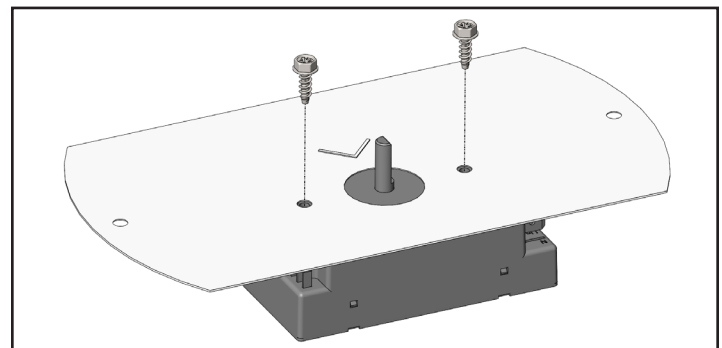

Fig. 4. DO NOT overtighten the screws when installing the control.
4. With the provided Phillips hex head screws, install the control in the appliance. See fig. 4.